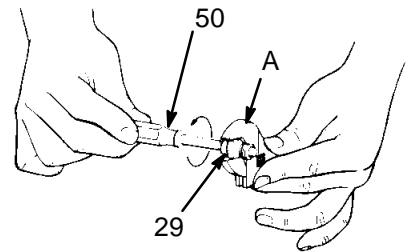

Fig. 21
3. Hold the valve housing with a wrench (A). Turn the (50) clockwise to free the needle valve stem (29). See Fig. 21.